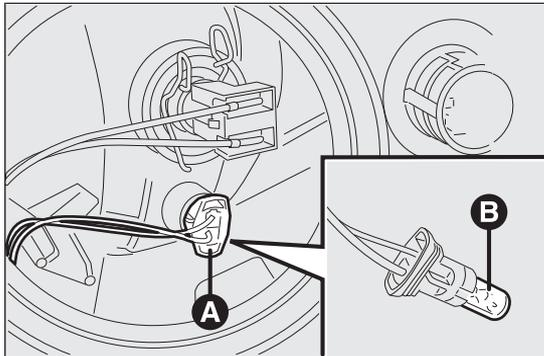

fig. 190
- remove snap-fitted bulb holder A fig. 190, remove bulb B and replace it;
- refit the snap-fitted bulb holder A fig. 190;